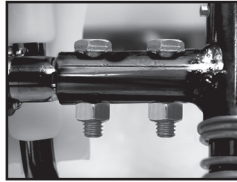
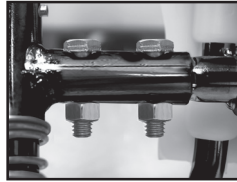

Figure 5
Figure 6
The pump handle can be mounted on either side of the pump shaft (A). To install the pump handle place the handle (C) over the shaft (A) aligning the pump handle holes and shaft holes. Slide the bolts (B) through the aligned holes as shown in figure 1 thru 4. Tighten nuts (D) to bolts. There are holes in the pump handle to allow for either right (fig.5) or left (fig.6) hand mounting.